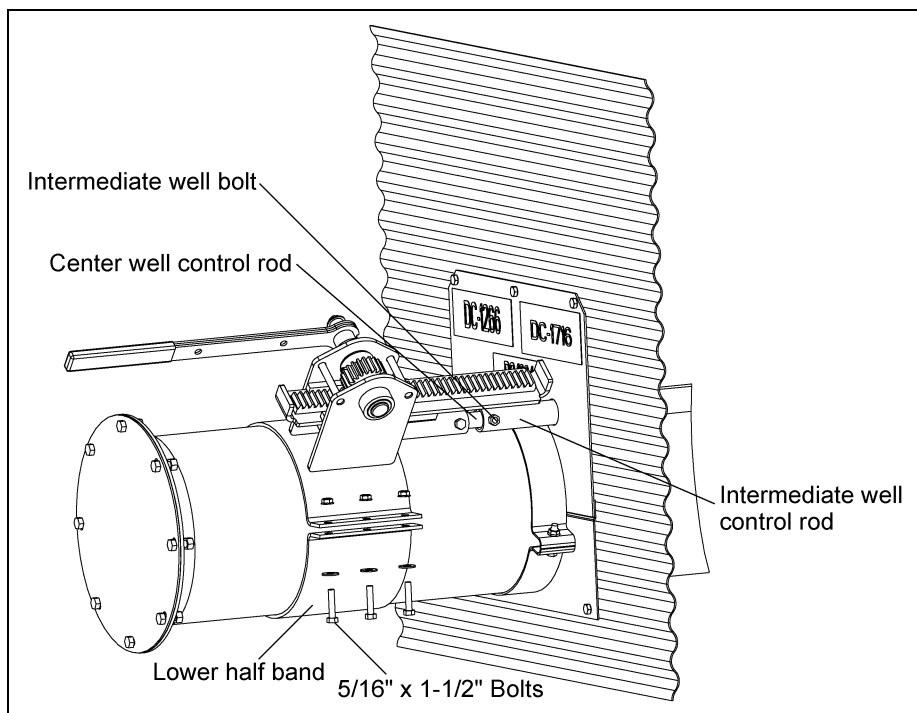

Figure 4R 8" and 10" Systems
- With rack and pinion fully extended, attach lower half band and secure to unload tube with six (6) 5/16" x 1-1/2" bolts, washers, and serrated flange nuts. (See Figure 4R.)
- To open all gates, with center gate closed, place second 5/16" x 1-3/4" bolt through center gate control rod and intermediate gate control rod, and secure with nut. (See Figure 4R.)